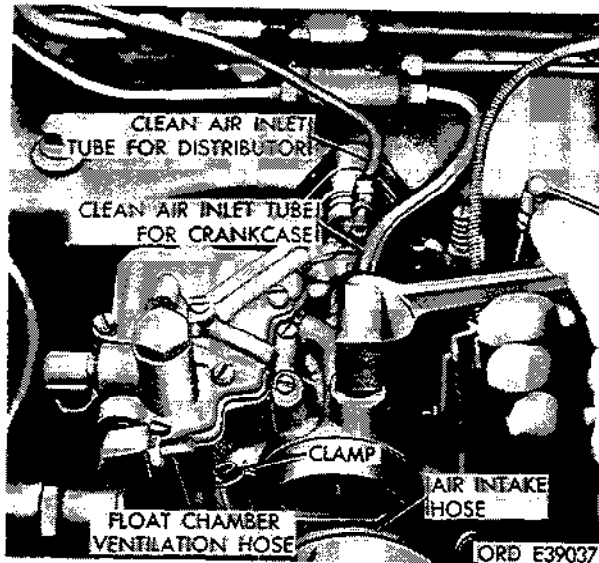

Figure 2-92. Disconnect fittings.
(1) Disconnect ventilation tube fittings. Expand clamp on float chamber ventilation hose. Pull hose from fitting. Loosen intake air hose clamp. Pull hose from carburetor (fig. 2-92).